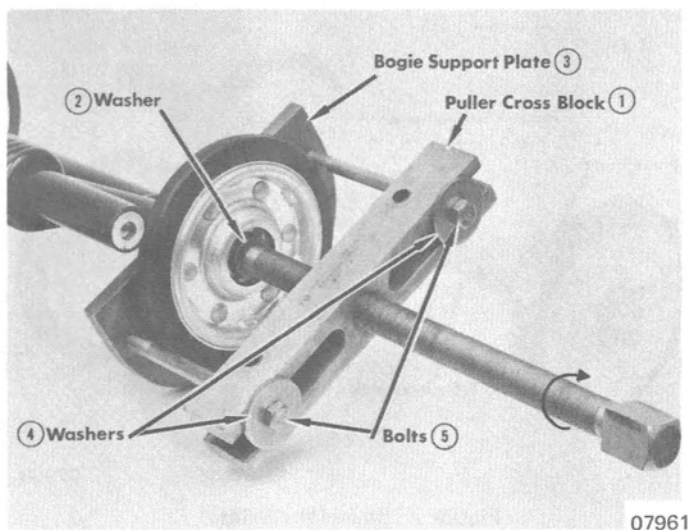
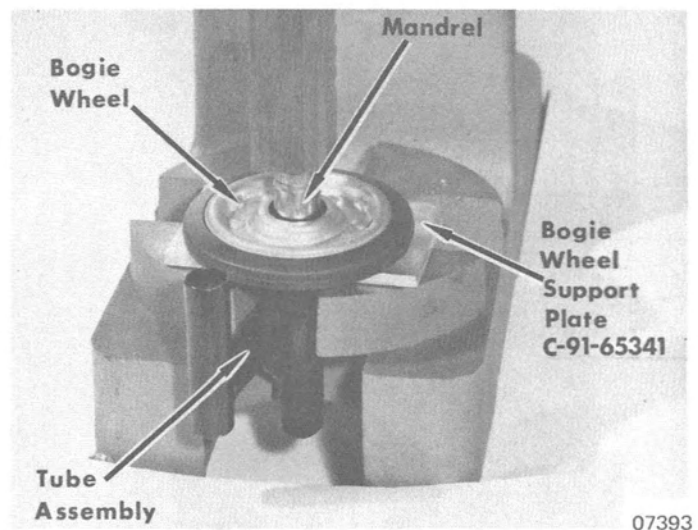

Figure 4. Removing Bogie Wheel
Figure 5. Pressing Bogie Wheel Off Tubing
**NOTE:** 440 MAX snowmobiles with Chassis Serial No. 3709838 and above are equipped with polycarbonate bogie wheels. Remove a polycarbonate bogie wheel by (1) removing snap ring from wheel, (2) pull wheel off sealed bearing and (3) press sealed bearing off bogie tube, using an arbor press, a suitable mandrel and Puller Plate (C-91-37241). DO NOT attempt to use Bogie Wheel Support Plate (C-91-65341) for removal or installation of a polycarbonate bogie wheel.
5. Remove bogie wheel from tube assembly as shown in Figure 4. Wheel bearing is staked to tube assembly. Bogie wheel may be removed with a press, as shown in Figure 5.